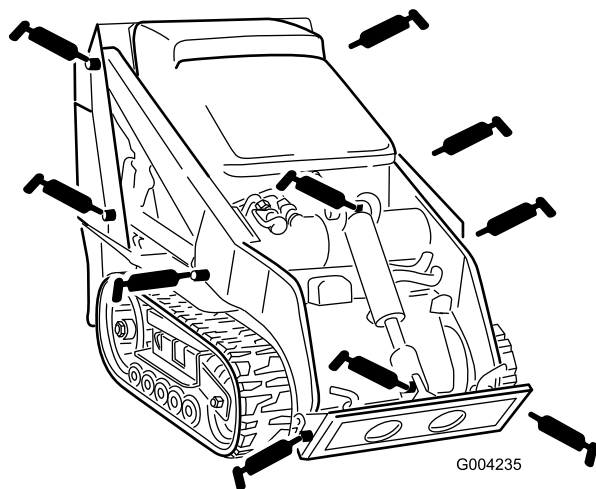
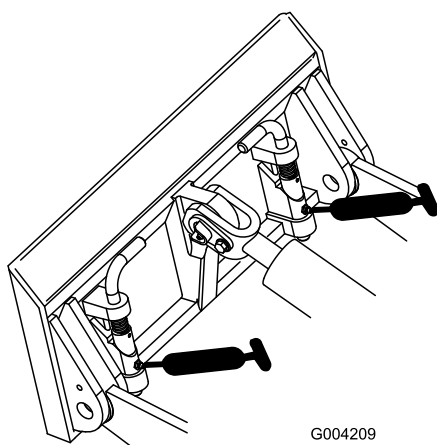

Figure 30
Figure 31
3. Connect a grease gun to each fitting (Figure 30 and Figure 31).